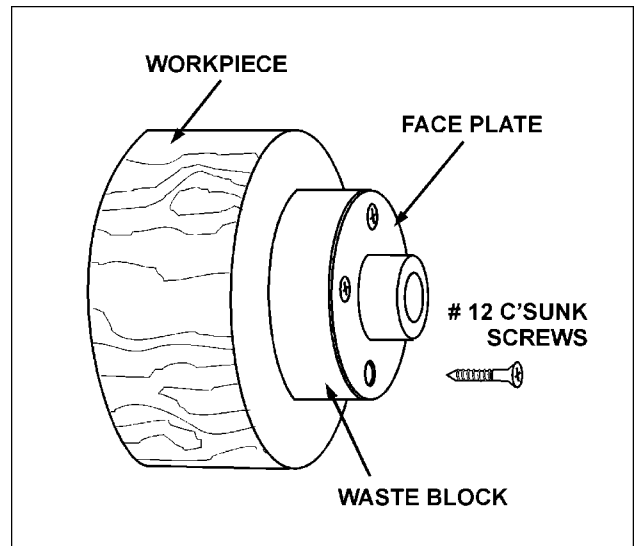

Fig. 20
3. Using the face plate as a template, mark the location of the mounting holes, and drill pilot holes of the appropriate size. If the mounting screws on the face plate interfere with the workpiece, a waste block can be mounted to the face plate and then the waste block mounted to the workpiece by gluing or screwing, see Figure 20.